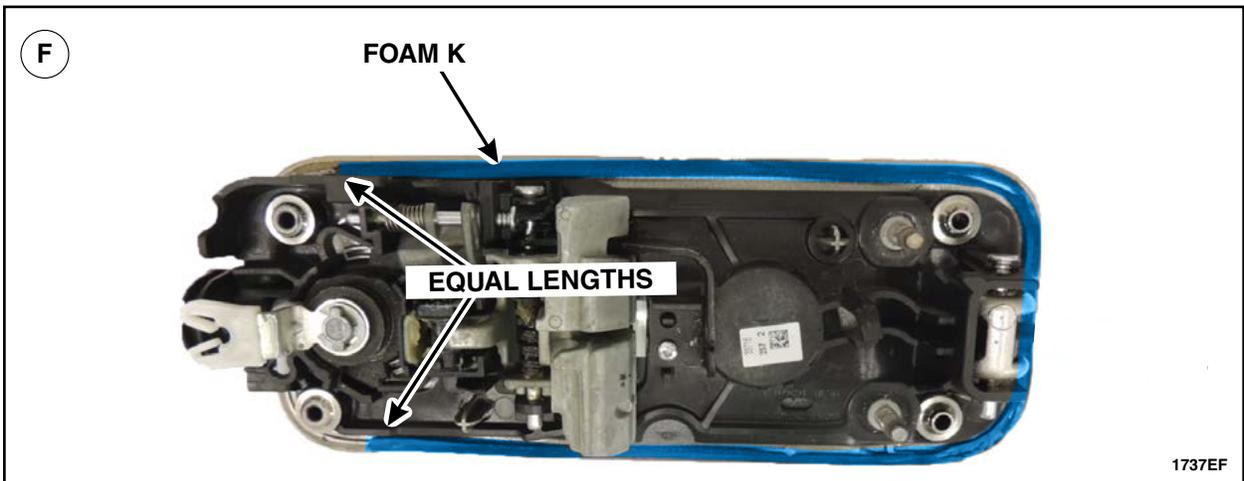

FIGURE 96
- F. Without stretching the foam adhere it to the exterior door handle ensuring that both sides of Foam K are of equal length once secured. See Figure 96.